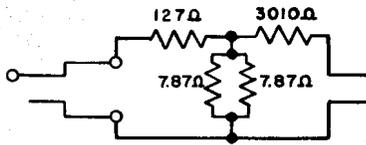

Fig. 17—397A Plug
2.17 397A: The 397A (Fig. 17) is a 2-conductor plug and has a shell of insulating material. A pad having an attenuation of 50 dB is connected across the conductors and is provided with terminal leads within the shell for connection to a P2CC cord. The 397A plug is used with the 215- or similar-type jacks. This plug is used with the J98705U test set.